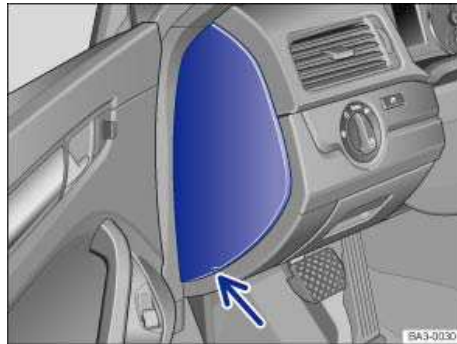

Fig. 213 On the driver side in the instrument panel: Fuse box cover.
- Pull the lower part of the cover in the direction of the arrow ⇒ fig. 213 and remove the cover from the bottom.